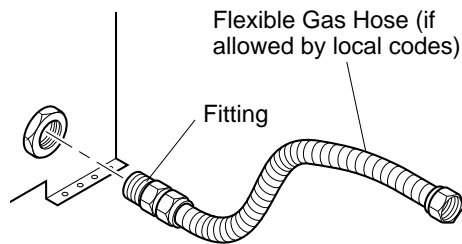

Figure 10 - Attaching Flexible Gas Hose to Heater
1. Apply pipe joint sealant lightly to male threads of the fitting to be threaded into gas regulator. Connect approved flexible gas hose to gas regulator of heater (see Figure 10).